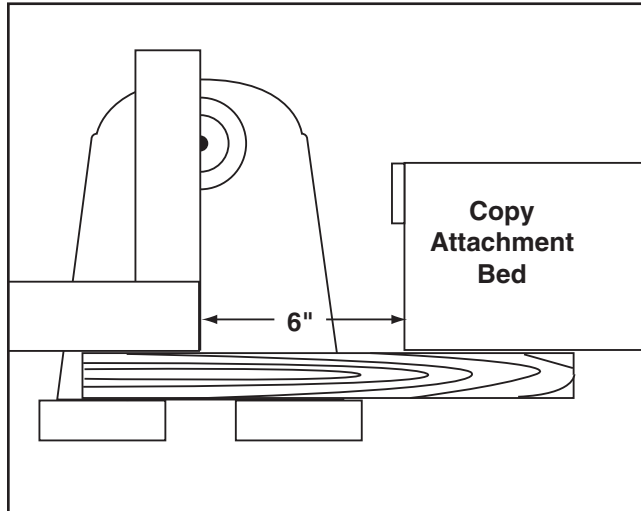

Figure 4. Use of gauge boards for alignment.
2. Place a machinist's square on top of the wood and measure 6" toward the Copy Attachment bed. **See Figure 4.** Place a precise mark across the width of the wood. Repeat the process with another piece of wood at the headstock.